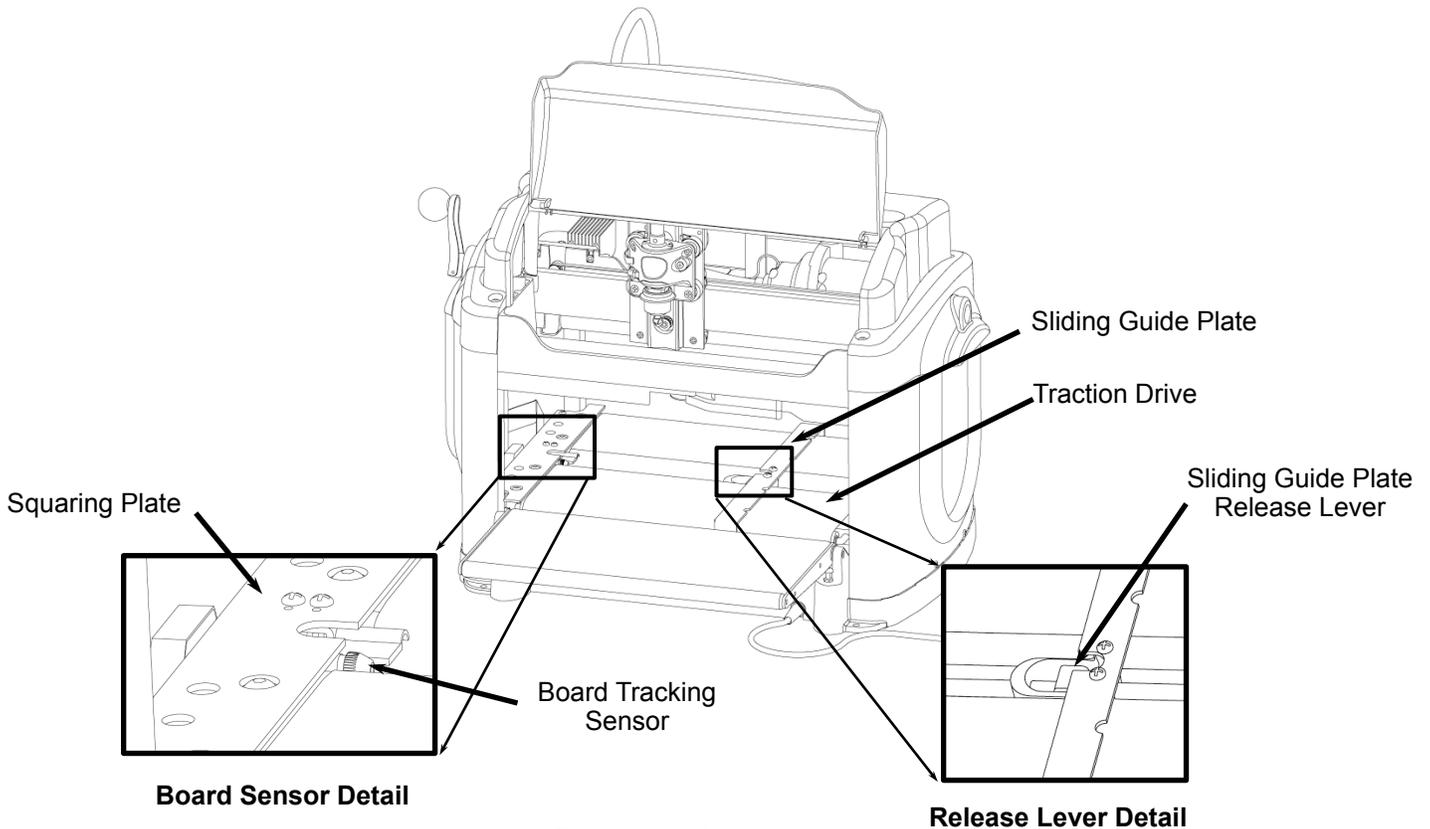

FIGURE 17: WORKPIECE
2. Check the bottom of the workpiece for features that will make it unusable in the machine. The bottom surface of the workpiece where it contacts the squaring plate must be flat and level for a width of at least 3/8^{ths} inches along the bottom edge to allow the Board Tracking Sensor to accurately calculate the position of the workpiece at all times (see Figure 17). If a workpiece does not have the required surface available for the sensor to follow (e.g., if it is already carved on the back), it will be necessary to fasten the workpiece to a sled or carrier jig to do further work on it. If a workpiece is slightly cupped or bowed, the workpiece should be inserted with the cup or bow facing down.